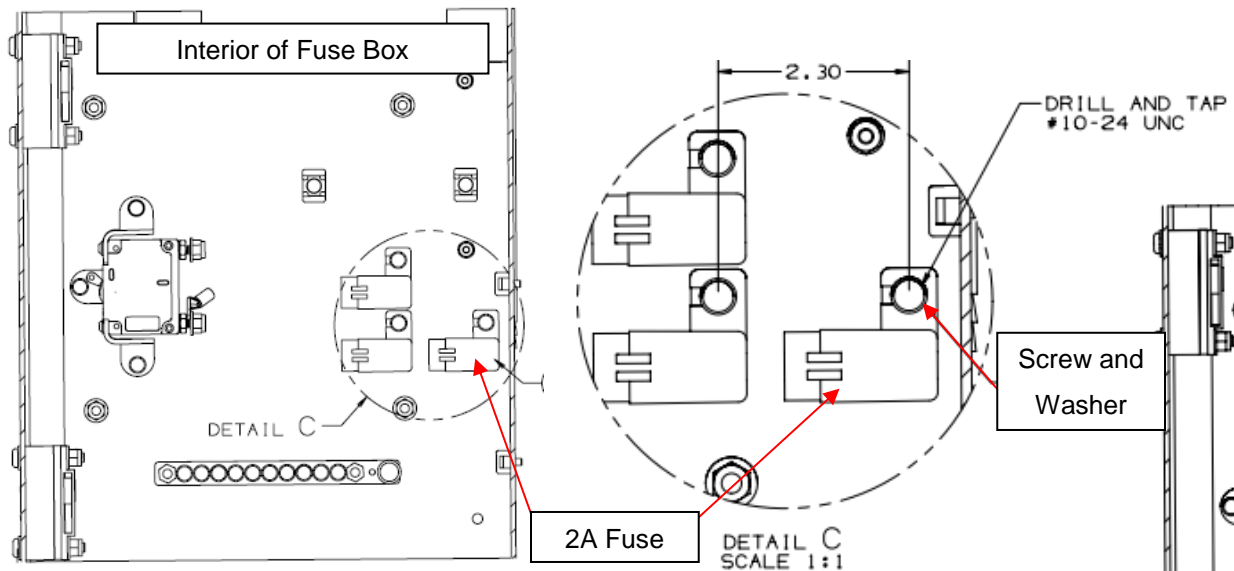

Figure 3: Location of 10-24UNC Hole for Fuse
- 5) Drill and tap 10-24UNC hole on the interior of the fuse box. Details shown in Figure 3 and 4.